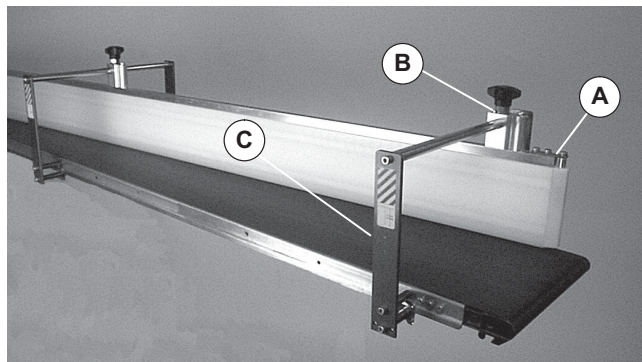

Figure 2
- Diverting Lane on 6100 Series conveyor (Figure 2)